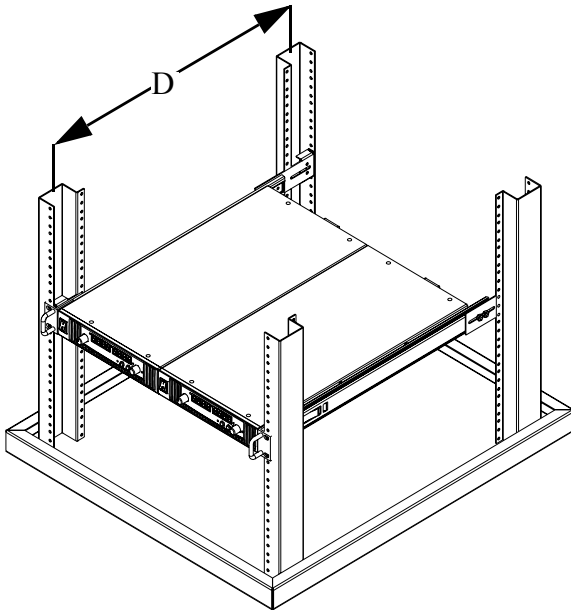

Figure 3 Finding rack depth
1. Find your rack depth (D), which is the distance between the front and back flanges. See Figure 3.